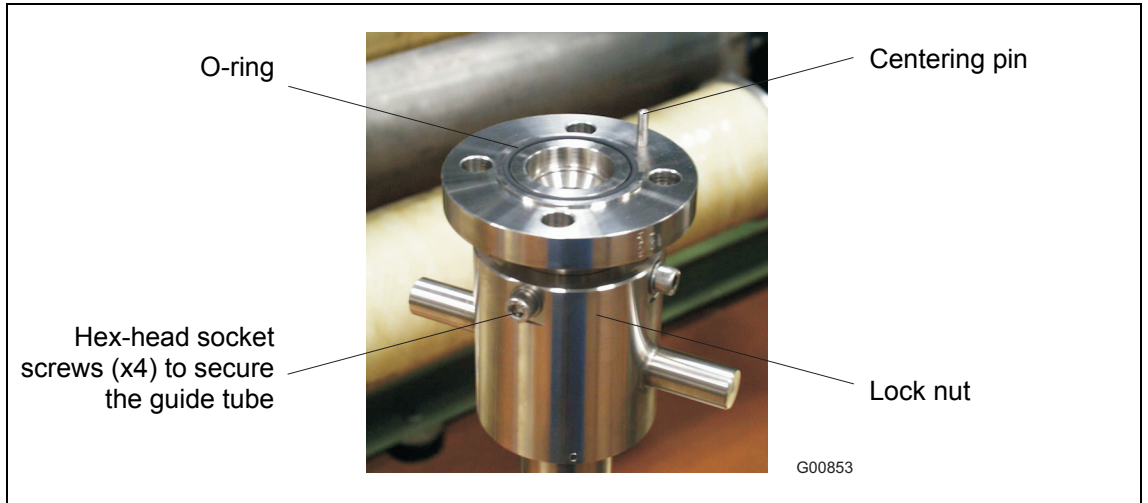

Fig. 10
- Insert the O-ring (55 x 3 mm [2.16 x 0.12 inches]) into the groove provided for this purpose (Fig. 10). The O-ring gasket and screws are included in the scope of delivery.